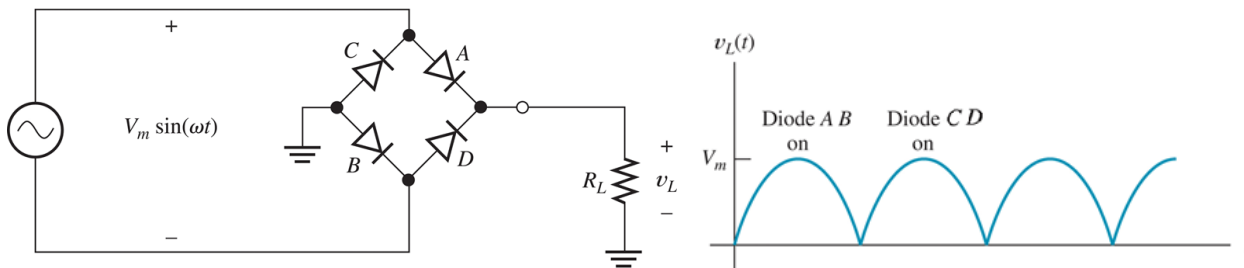

Figure 1. (a) Circuit diagram of full wave rectifier. (b) Output voltage.
**Note:** Diodes A through D of the full wave rectifier shown in figures 1 and 2 are assumed to be ideal diodes with zero turn on voltage. The LEDs used in the lab have a finite turn on voltage.